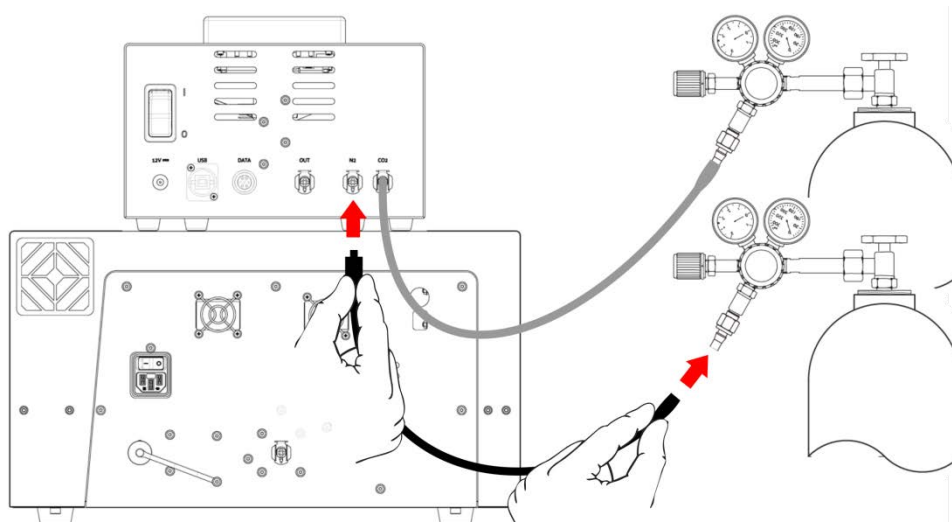

Figure 27
3. If the GCM is configured for 'CO2 and O2', nitrogen gas can be used to regulate the amount of oxygen, in addition to CO2 regulation. Connect the pressure regulator's outlet of the N2 gas cylinder or central gas supply to the gas control module's inlet port ('N2') on the back. Use the provided long tube with quick connector and attach the tube to the regulator of the cylinder with a plastic clamp, as depicted in Figure 27, below.